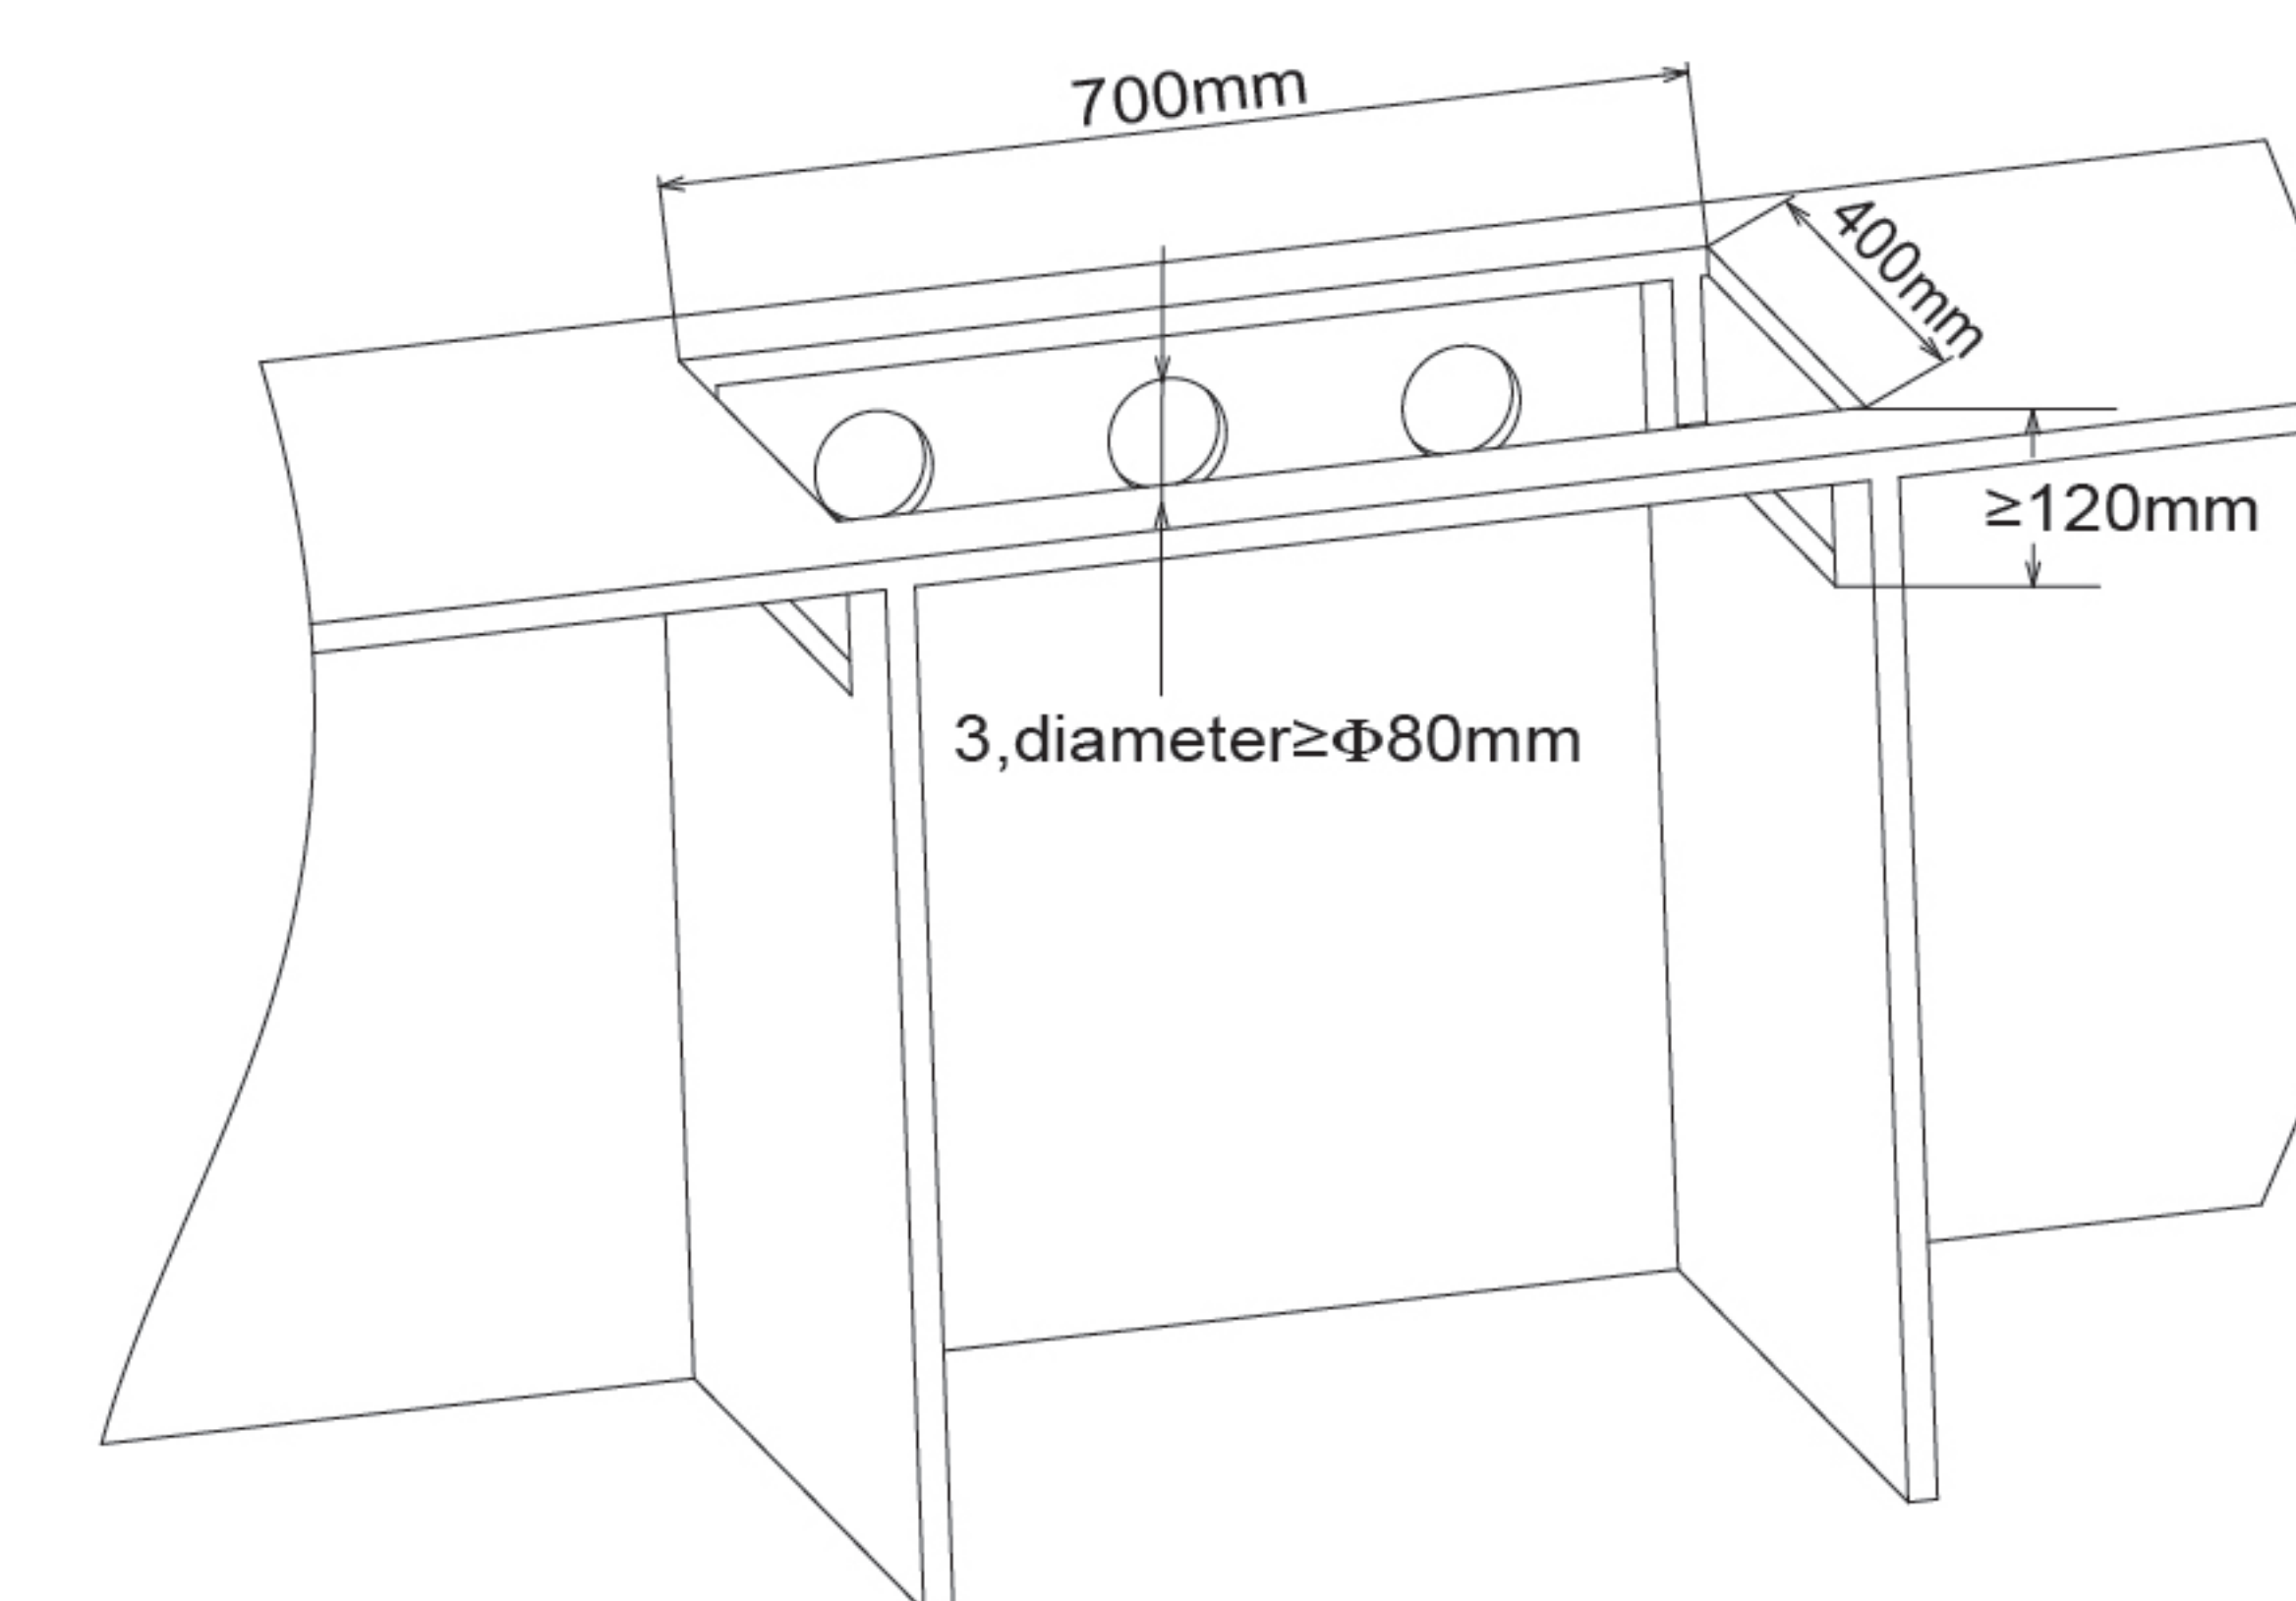

Fig 2
3. A vent at least 150cm² (equivalent to 3 circular holes with a diameter of 80mm) should be opened at the back of the cupboard and cuts of 400X120 should be made on the side panels of the cupboard for ventilation and heat dissipation of the induction hob if electrical appliances such as disinfection cabinets are installed below (Fig 2).